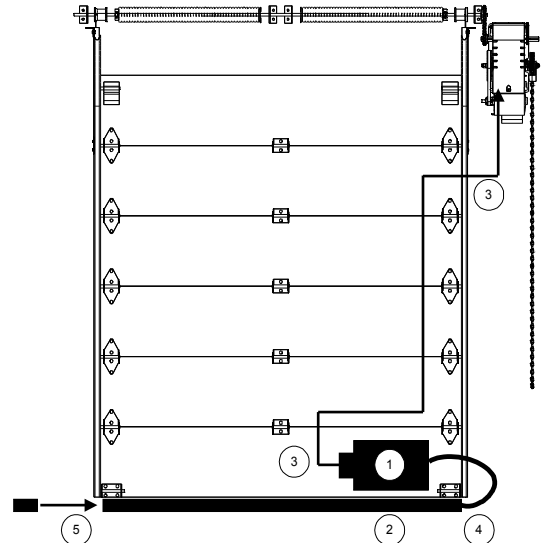

Figure 27 - Reversing Edge
1. Place the air switch in position, refer to Figure 27.
1. Place the junction box in position, refer to Figure 27.